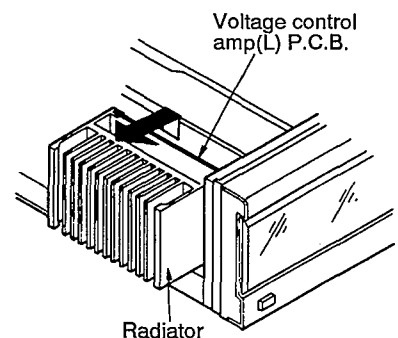

Fig. 2
- Connect the ground terminal of current drive amp(L) P.C.B. and chassis by lead wire.
- Figure 2 and figure 3 show the left (L ch) voltage control amp(L) P.C.B.
- Remove the right (R ch) voltage control amp(R) P.C.B. in the same way.